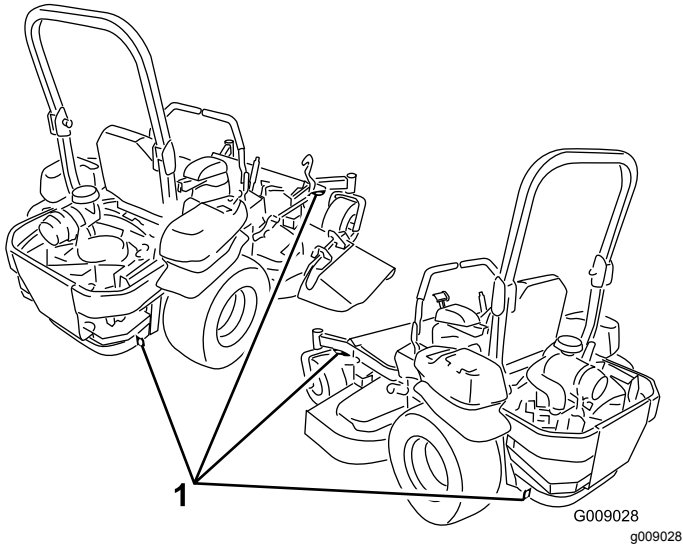

Figure 42
5. Use the metal tie-down loops on the machine to securely fasten it to the trailer or truck with straps, chains, cable, or ropes (Figure 42).